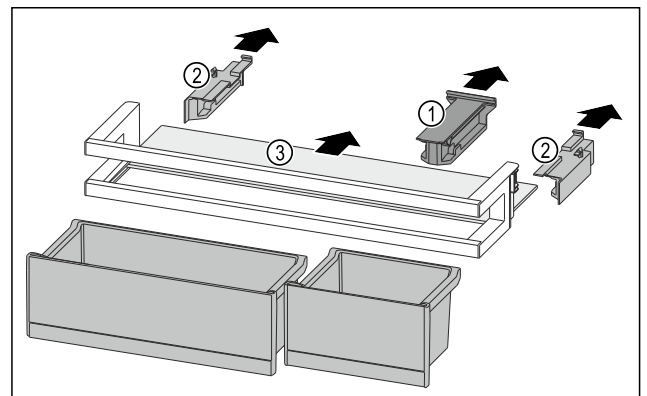

Fig. 137
- ▶ Pull off the holding part Fig. 137 (1).
- ▶ Pull off the side parts Fig. 137 (2).
- ▶ Remove the shelf Fig. 137 (3).